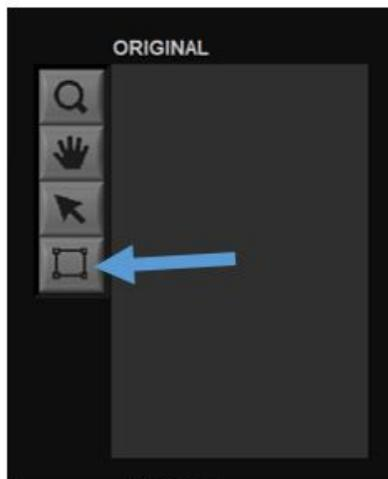

Figure 36. Callout to the square tool
3. The entire image will load into the **Original** and **Corrected** panel but for this application we only need the color squares. Click on the square tool next to the **Original** panel and draw a box around the color squares in the image (Figure 36).